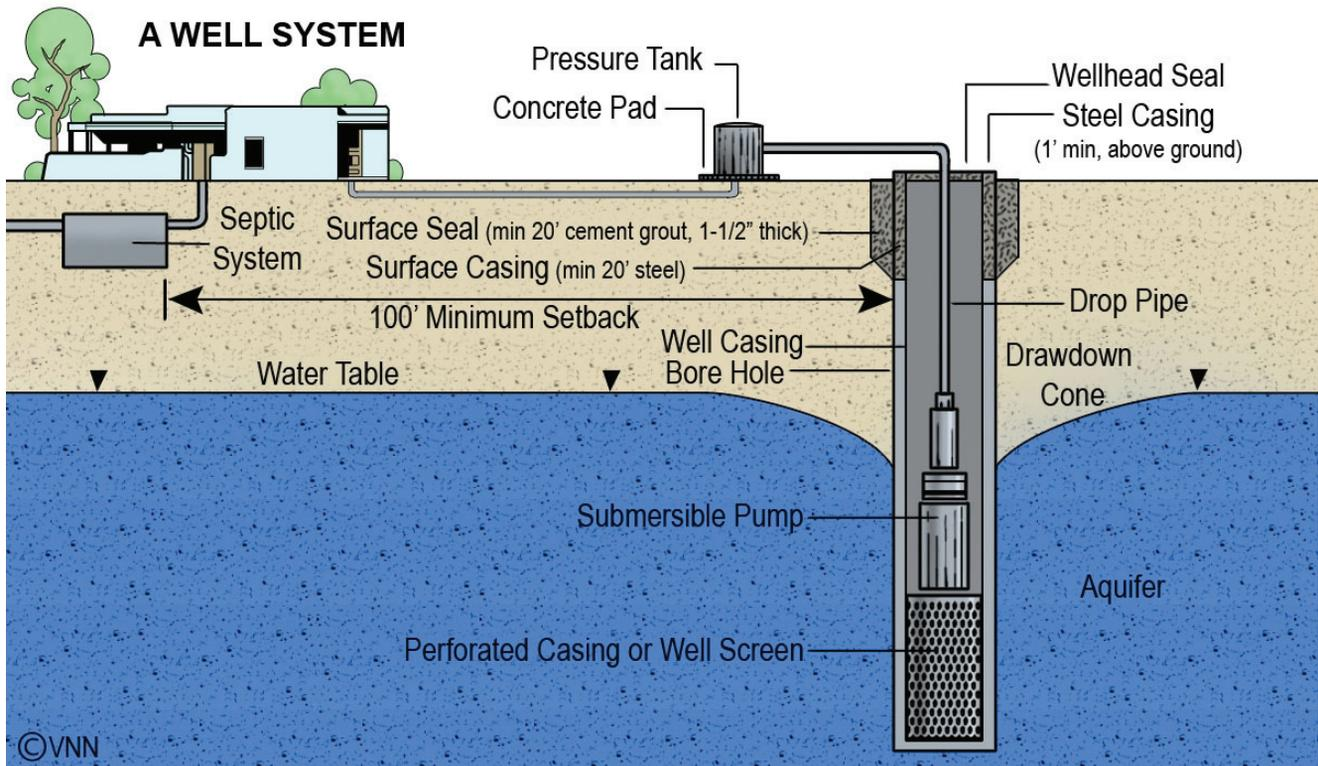

Figure 3. Base Well Diagram. Adapted from ADWR Well Owners Guide
**Nitrate:** Nitrate contamination is most often caused by human activity on the land, and has been linked to irrigated agriculture, concentrated livestock facilities, large turf areas and septic systems. Yavapai County requires a 100 foot set-back between a water supply well and sewage disposal system (such as a septic tank and leach field), but in areas of shallow ground water or consolidated rock aquifers, this may provide insufficient protection (Figure 3).